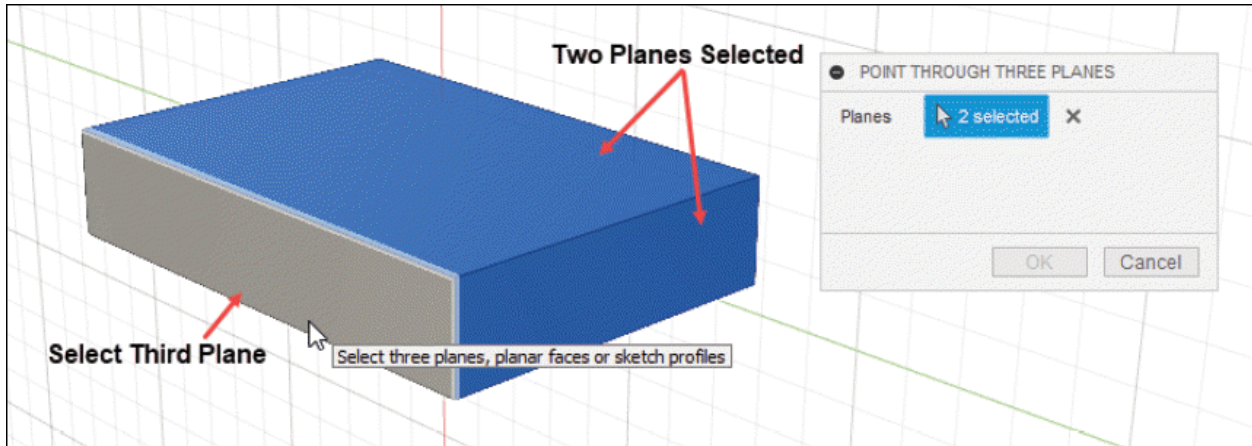

Figure-131. Selection of three planes to create point
- Select the three intersecting planes/faces from the model; refer to Figure-131.